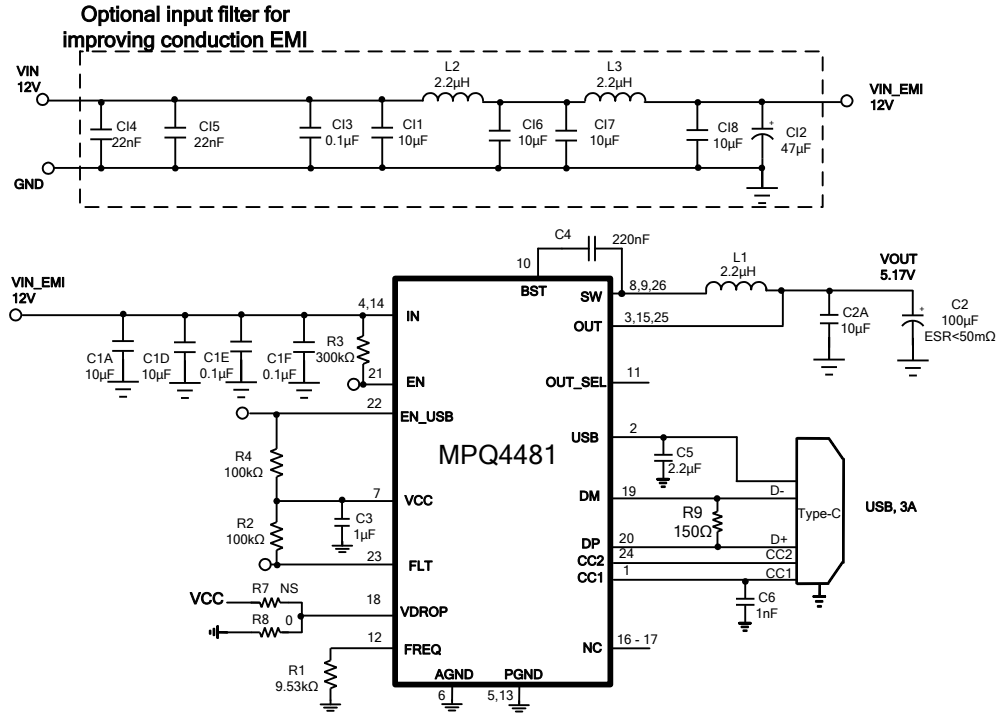
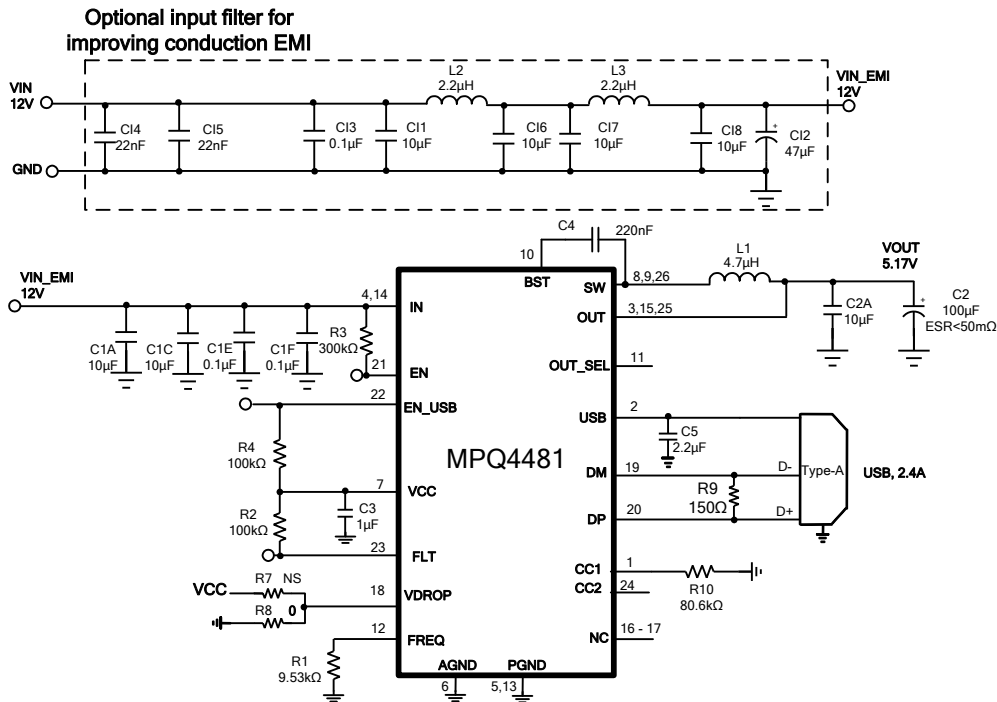

Figure 13: USB Type-C 5V/3A DFP Port (10)
Figure 14: USB Type-A 5V/2.4A Port (10)
- 9) The recommended layout is based on the Typical Application Circuits in Figure 13 and Figure 14.